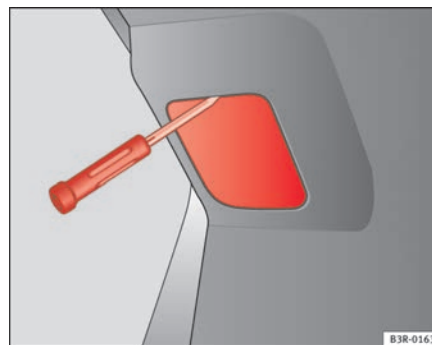

Fig. 215 Remove the cover in the tailgate
- Insert the screwdriver into the opening in the cover from the top ⇒ page 266, fig. 215 and detach the cover.